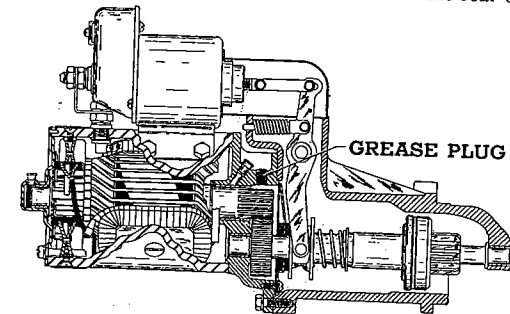

Fig. 16—Auto-Lite MAX-4041 Starter Used on Super Eight Models
**Repair Data**—The starter is a two-pole, reduction gear type Auto-Lite model MAX-4041 with magnetically shifted pinion. Stalled torque 45.9 pounds-feet at 906 amperes and 4 volts. Running free at 2695 pinion shaft r.p.m. 77 amperes at 5.5 volts. Armature shaft maximum end play  $\frac{1}{8}$  inch. Refer to Fig. 16.